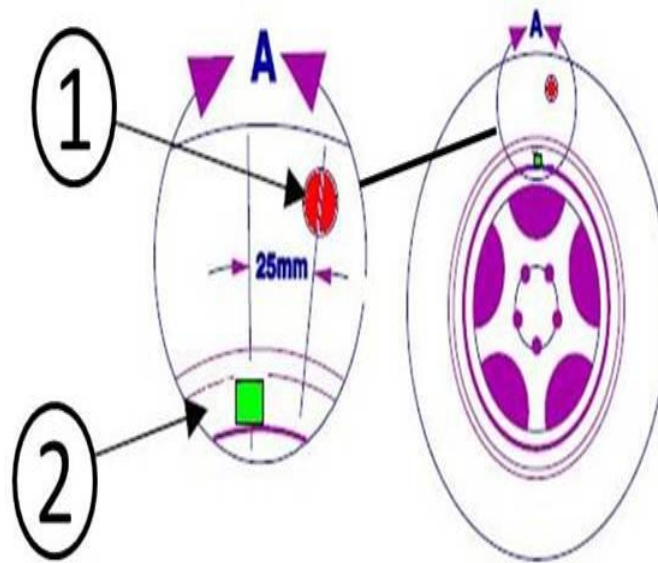

Fig. 1 Match Mount
6. Mount tire to the “new” wheel taking care to align the stickers within 1” of each other on both the wheel & tire (Fig. 1).